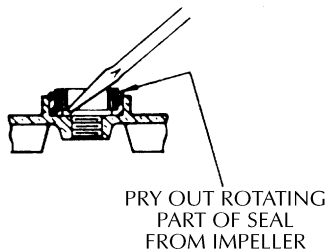

Figure 4
3. Pry loose the ceramic seal in impeller, apply screwdriver between seat and cavity in impeller (Figure 4). Clean cavity from which seat was removed.